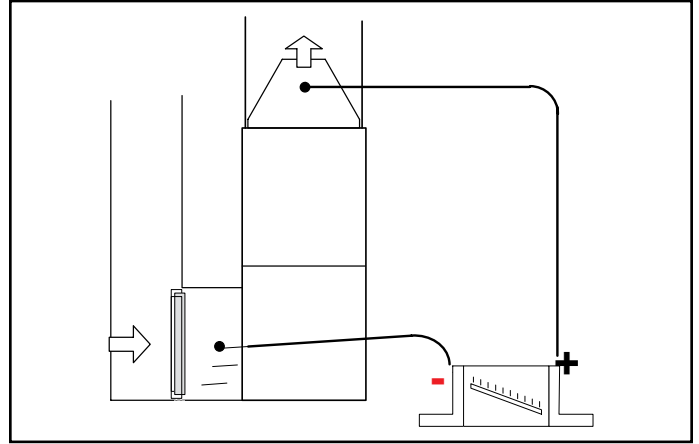

Figure 58. Static Pressure Test
1. Tap locations shown in Figure 58.